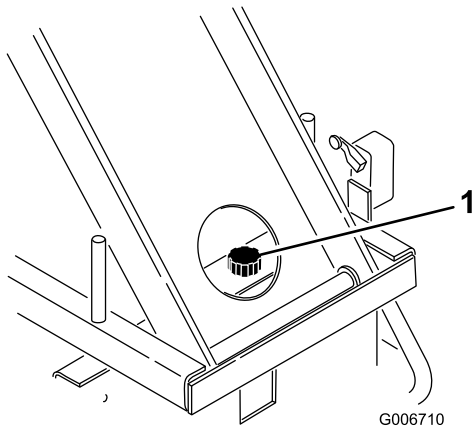

Figure 20
3. Clean area around reservoir breather cap (Figure 20).